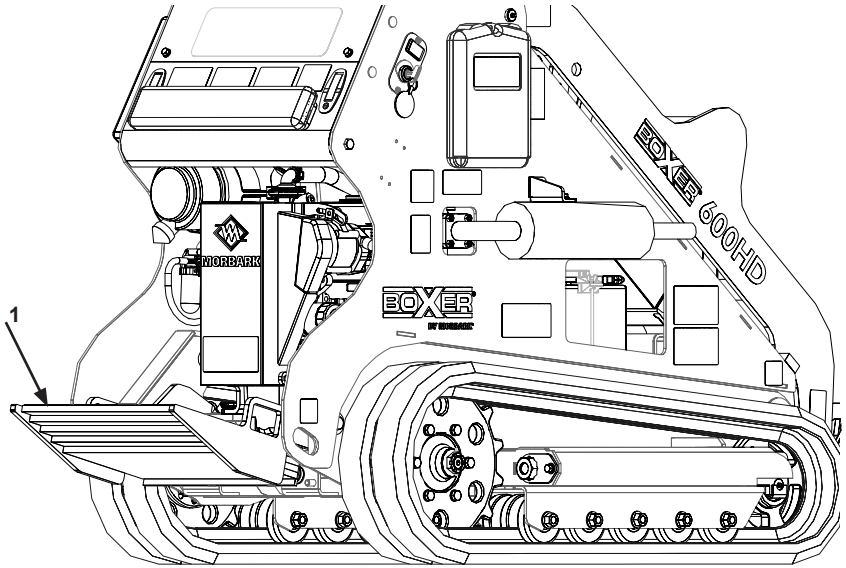

Figure 3-11 Operator's Platform
1. Stand on the operator's platform (Item 1, **Figure 3-11**).